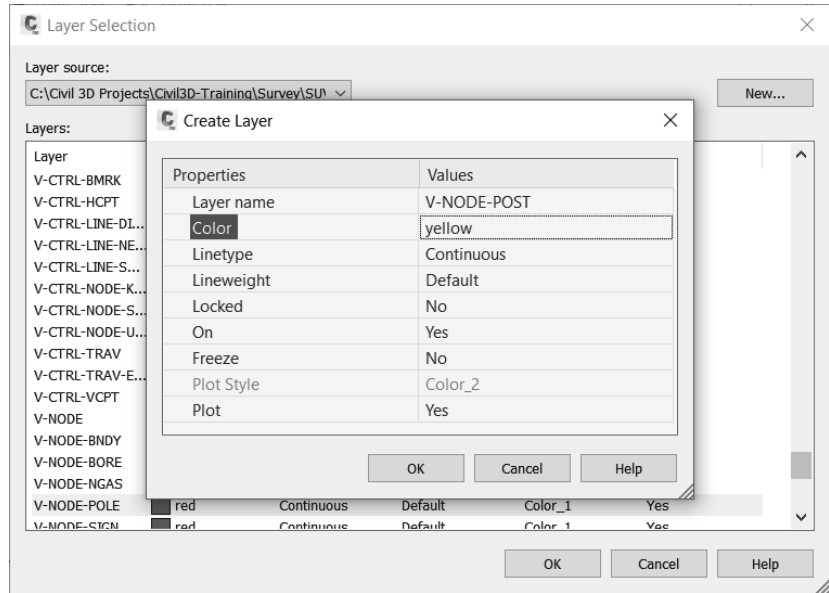

Figure 2–29
11. For the *Layer name*, type **V-NODE-POST**, and then set the *Color* to **yellow**, as shown in Figure 2–29. Click **OK** to exit the Create Layer dialog box. Click **OK** to exit the Layer Selection dialog box.